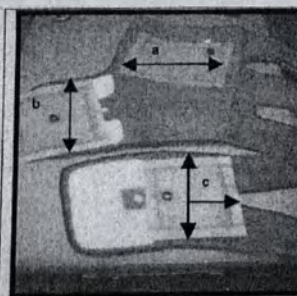

Fig. 1
1. Position the bladders and cuffs aligning the bladder inlets with cuff inlets (Fig. 1).
- Upper thigh/buttocks bladders lie across the buttock with the bladder inlet in the center of the cuff. [Fig. 1-a]
- Lower thigh bladders are positioned to lie lengthwise at the inner thigh with the bladder inlet in the center. [Fig. 1-b]
- Calf bladders lie lengthwise on the lower leg, covering the calf muscle. The bladder inserted inlet is in the center. [Fig. 1-c]
- Insert upper thigh/buttocks bladders positioning the bladders as indicated in Fig. 1-a, 2-a.
- Insert the lower thigh bladders positioning the bladders as indicated in Fig. 1-b, 2-b.
6. Open the hook and loop binding for the calf cuff and insert the bladder inlet side first. [Fig. 5] Position the bladders as indicated in Fig. 1-c, 2-c, 5-c. *Inserted correctly, the bladder will be positioned facing the opening/ strap side of the cuffs.* Smooth out wrinkles and creases and secure the bindings. Repeat this step for the opposite calf cuff.